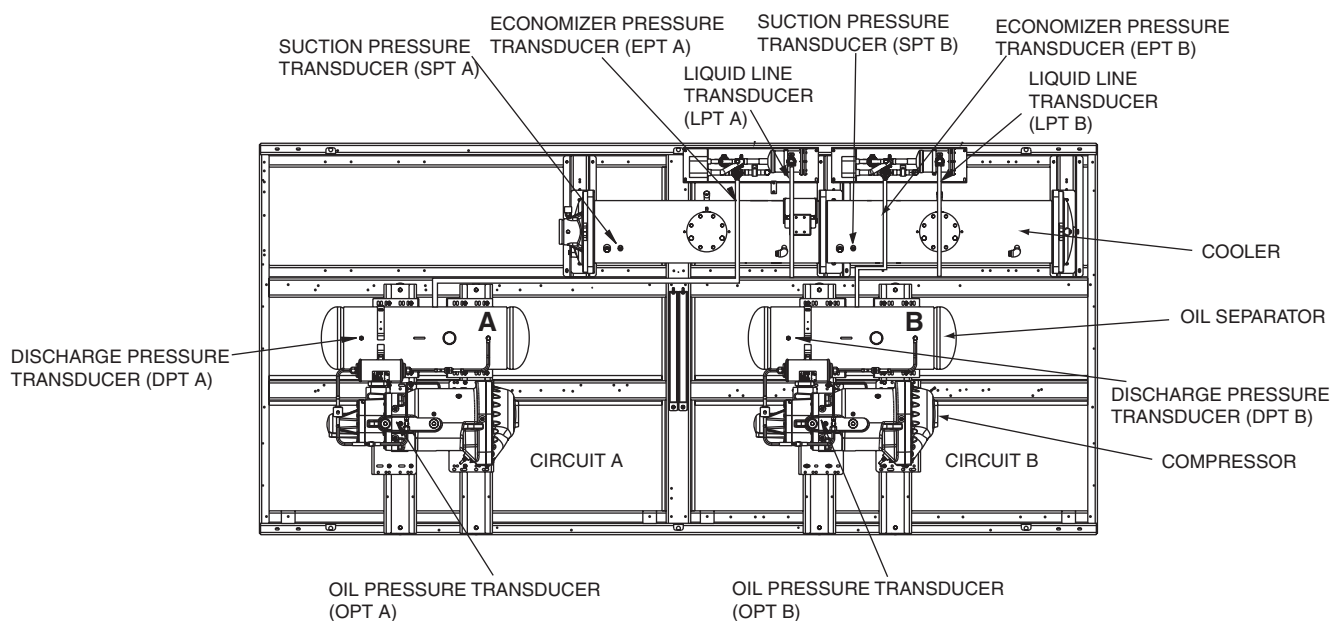

**Fig. 47 — Transducer Locations**
**High Pressure Type:** discharge pressure transducer (DPT), oil pressure transducer (OPT), liquid line pressure transducer (LPT). See Fig. 47 for transducer locations.